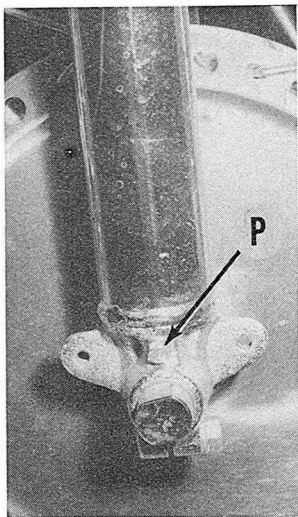

Fig. S7-9 — Front suspension units are drained by removing plug (P), then compressing and releasing forks.
**SUSPENSION.** Each front suspension unit contains 220cc of SAE 30 motor oil. Fork oil should be renewed every 2000 miles and is drained by removing oil drain plug (P—Fig. S7-9).